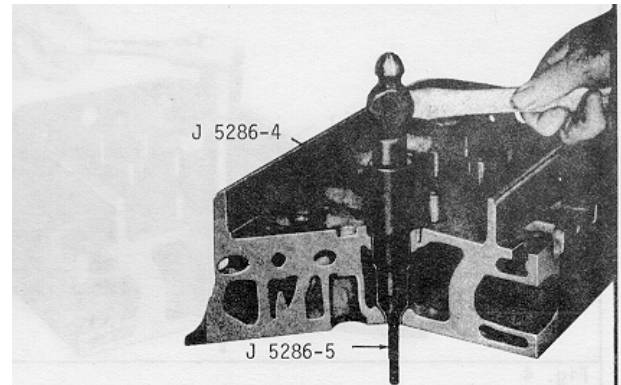

Fig. 2 Installing Injector Tube
- (1) Place a new injector tube seal ring in the counterbore in the cylinder head.
- (2) Place the installer J 52864 in the injector tube. Then insert the pilot J 5286-5 through the small opening of the injector tube and thread it into the tapped end of the installer (Fig. 2).
- (3) Slip the injector tube into the injector bore and drive it in place as shown in Fig. 2. Sealing is accomplished between the head counterbore (inside diameter) and the outside diameter of the injector tube. The tube flange is merely used to retain the seal ring.
- (4) With the injector tube properly positioned in the cylinder head, upset (flare) the lower end of the injector tube as follows: